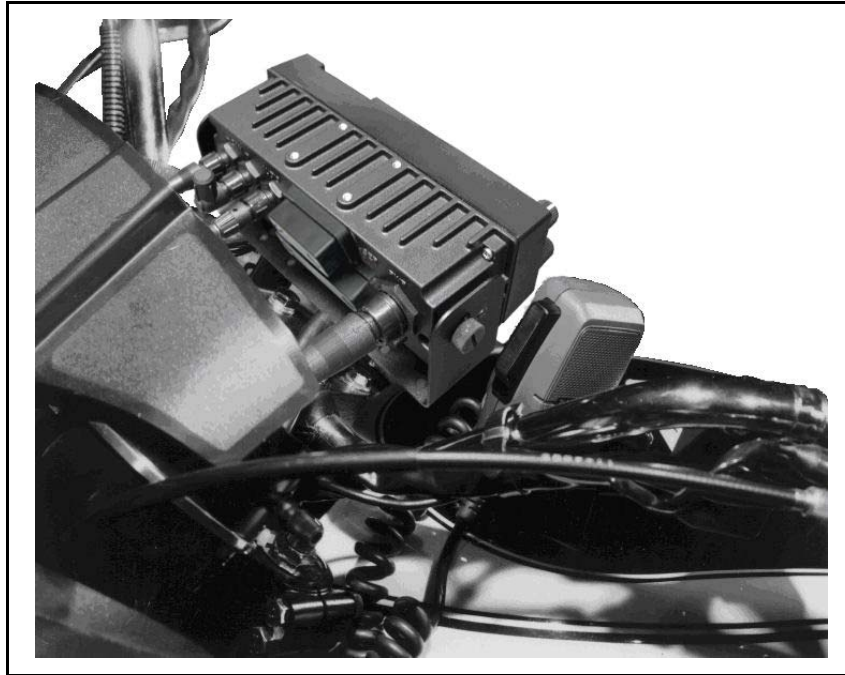

Figure 7-4: Control Unit Connections (CH721 shown)
6. Route the CAN cable to the rear of the control unit and make the connection to the right rear of the control unit as shown in Figure 7-4. Any excess cable will reside beneath the saddle area.
7. Route the power cable to the rear of the control unit and make the connection to the right rear of the control unit as shown in Figure 7-4. Any excess cable will reside beneath the saddle area.